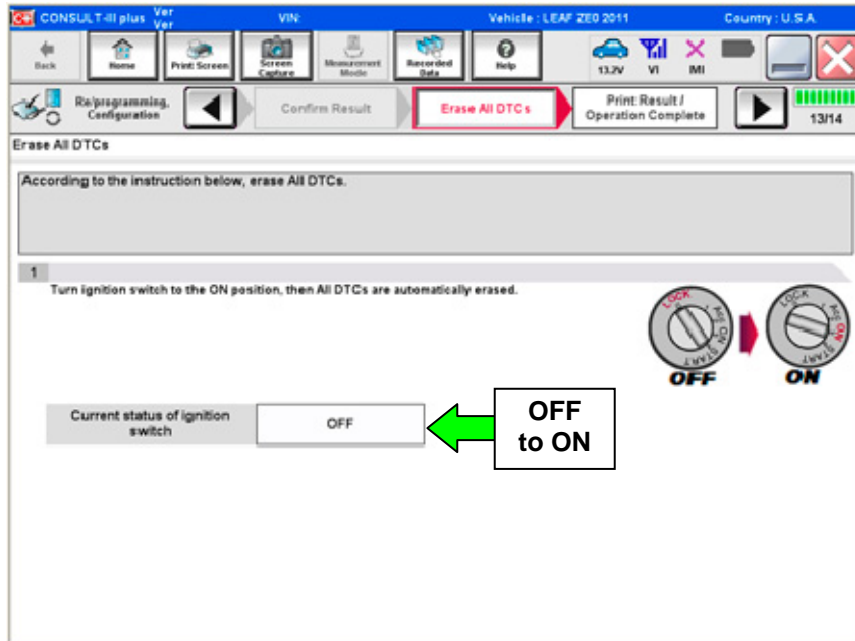

Figure 21
- The screen in Figure 21 will read **ON** after pressing the power switch twice.